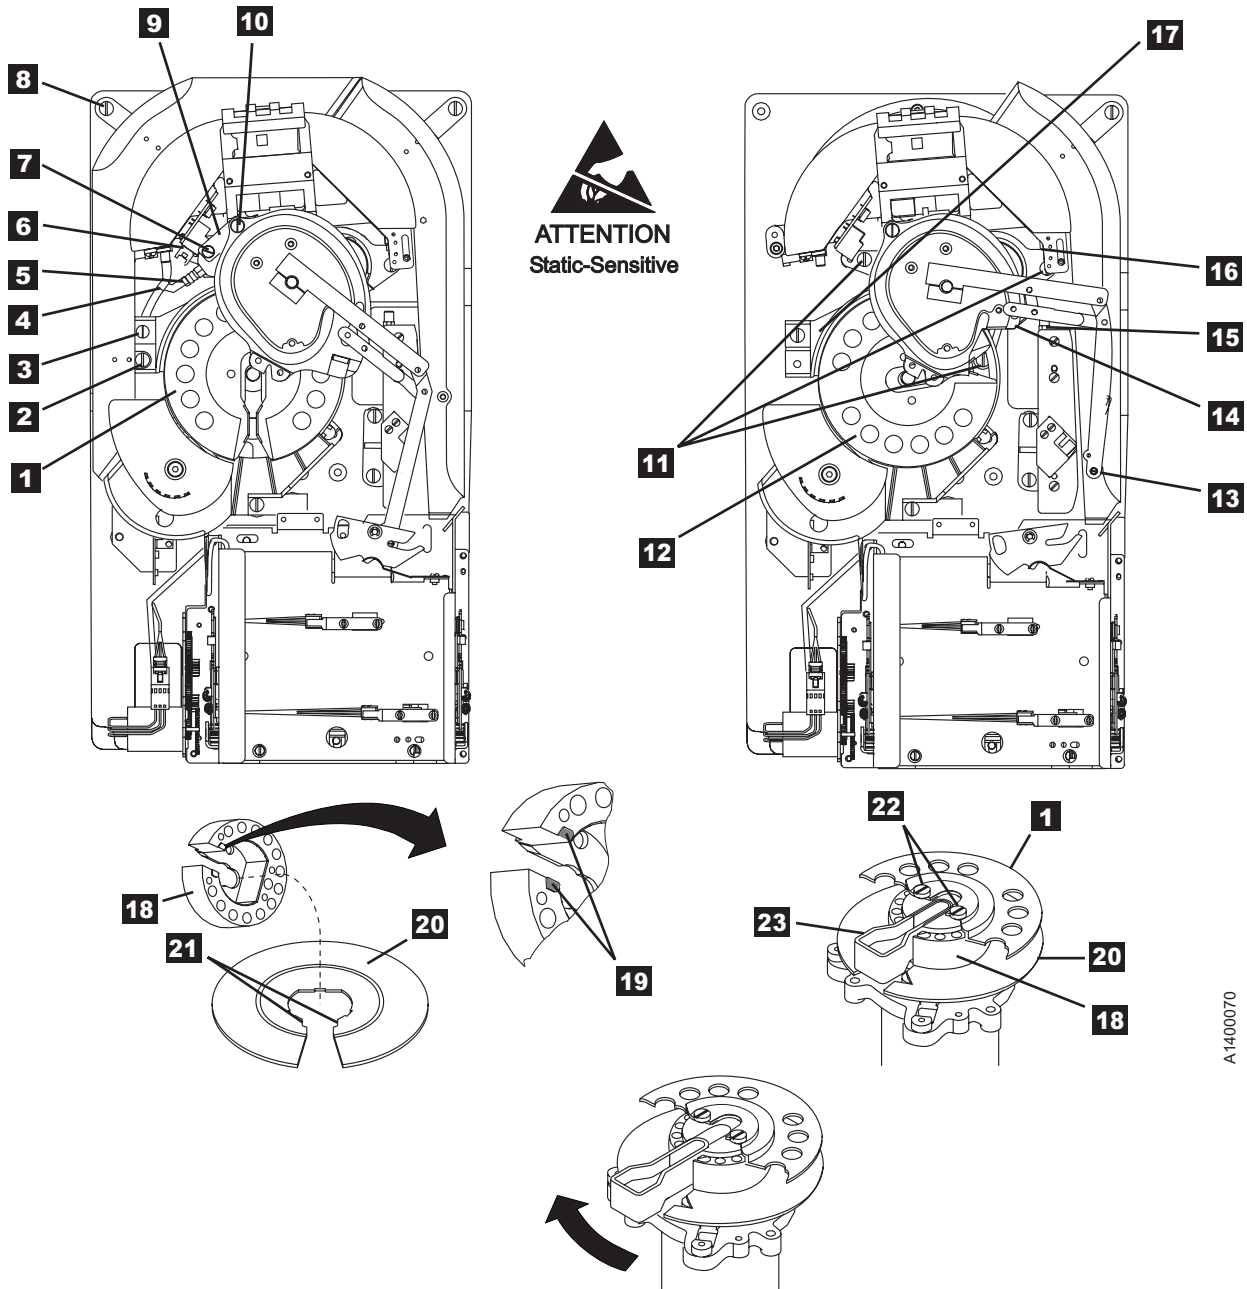

Figure 10-59. Pantocam
See Figure 10-59 on page 10-86.
- b. Insert the gap set tool into the hub **18** part way, as shown in the bottom of Figure 10-59 on page 10-86. Do not insert it all the way into the motor hub.
- c. Hold the top flange **1** while using the gap set tool to rotate the hub **18** left (clockwise). Refer to the arrow that indicates the direction of rotation at the bottom of Figure 10-59 on page 10-86. The hub will only move a small distance.